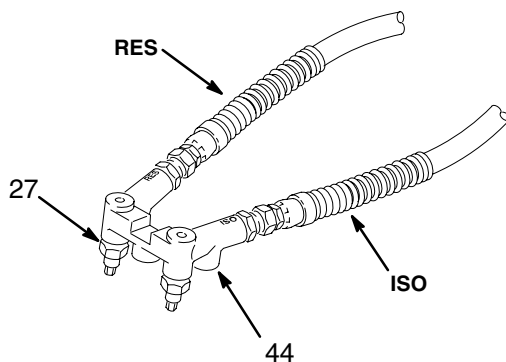

Fig. 12
To reduce the risk of serious injury from injection, be sure the trigger safety (40) is locked before proceeding. See Fig. 12.
1. The gun manifold (27) has four inlet ports; two ports are plugged with steel plugs (44). Relocate the plugs to route the hoses straight down from the manifold, if desired. See Fig. 12.